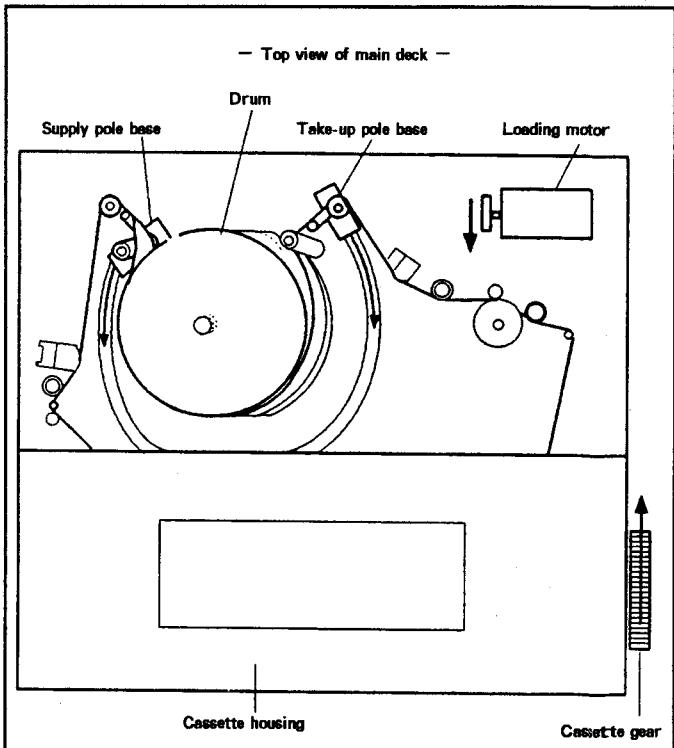

Fig. 2-1-1 Manual takeoff of cassette tape -
- (1) Unplug the power cord first, then, remove the top cover, MAIN board, shield cover.
- (2) Turn the loading motor on the main deck by hand in the direction of the arrow to set the mechanism to the unloading position. (Fig. 2-1-1) Carefully do this work not to soil the tape with grease.
- (3) Place the set uprightly on its back and remove the base plate (together with the W-MAIN and W-I/O board assemblies) and the MECHACON/
- (5) Turn the gear of the cassette housing in the direction of the arrow and take out the cassette tape. (Fig. 2-1-1).